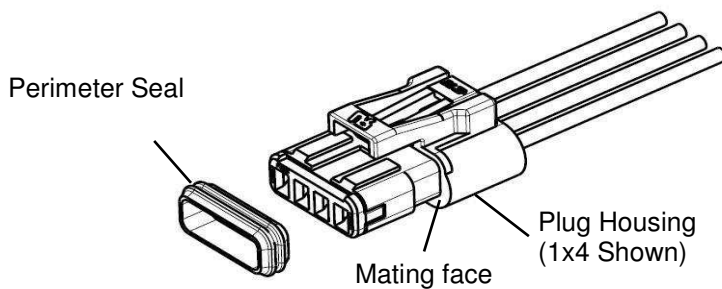

Figure 8
1. Assemble Perimeter seal over contact silos of the plug housing as shown in Figure 8 until it rests against the mating face of the plug housing as shown in Figure 9.